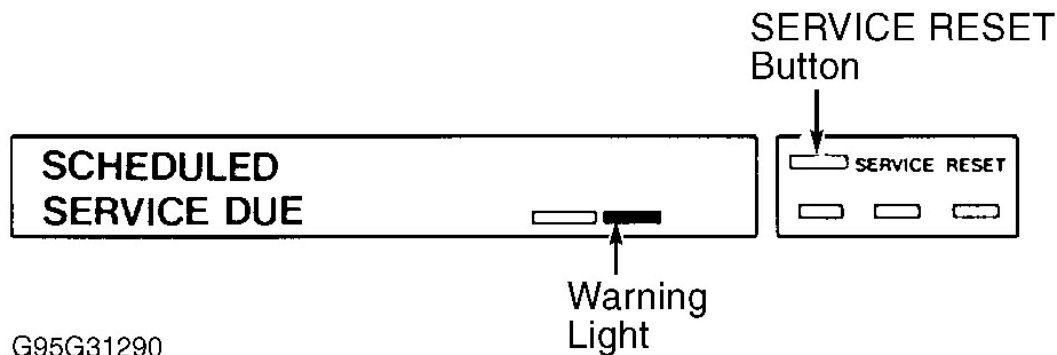

Fig. 3: Identifying Scheduled Service Light Reset Button
2. To reset warning light, locate SERVICE RESET button. See **Fig. 3**. With ignition switch in the ON position, press SERVICE RESET button for 3 seconds. To verify reset, turn ignition switch off and on. Light should not come on.